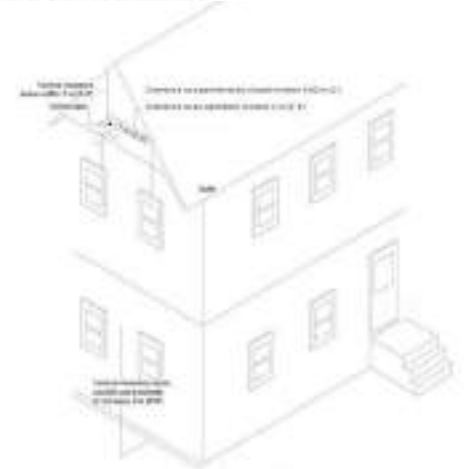

Figure 7.3.4b — Gable end roof discharge
7.3.4.1 Active radon reduction systems shall discharge to the outdoors as shown in Figure 7.3.4a (roof top), in Figure 7.3.4b (gable end), or in Figure 7.3.4c (side-wall discharge near ground level).
7.3.4.2 Active radon reduction systems (Level 3) terminating above the roof (see Figure 7.3.4a) or via a gable end (see Figure 7.3.4b) shall have their fans located in the attic.